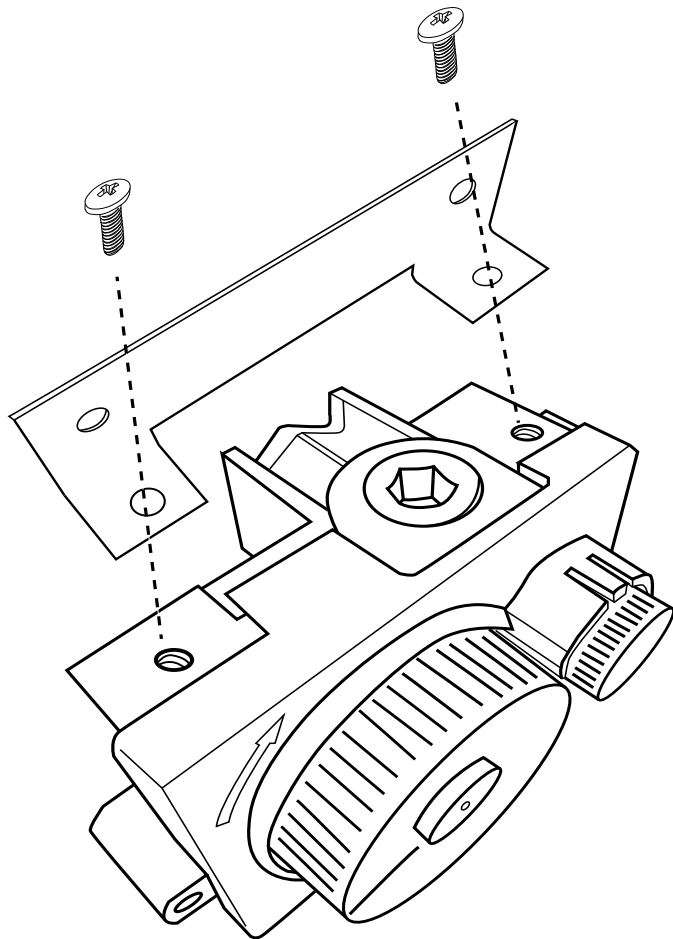

Fig. 1 Installing mounting brackets to gas timer.
Step 1: Use the four (4) screws provided in the ESTOP1-0H gas timer box and install the two (2) mounting brackets to each side of the gas timer as shown in Fig. 1.